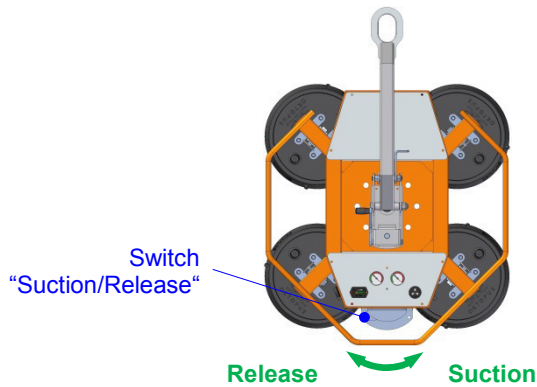

Fig. 6: Operating switch
The OKTOPUS® GLASS-Jack GL-N 400/300 is operated on the device according to fig. 6.
- ⇒ Now the construction element is suctioned. Slightly lift the switch “Suction/Release” (see fig. 6) and then slide it towards “Suction” until it latches (see also section 3.4 “Startup”).
- ⇒ Now the construction element is suctioned. Slightly lift the switch "Suction/Release" (see fig. 6) and slide it towards "Suction" until it latches (see also section 3.4 "Startup").